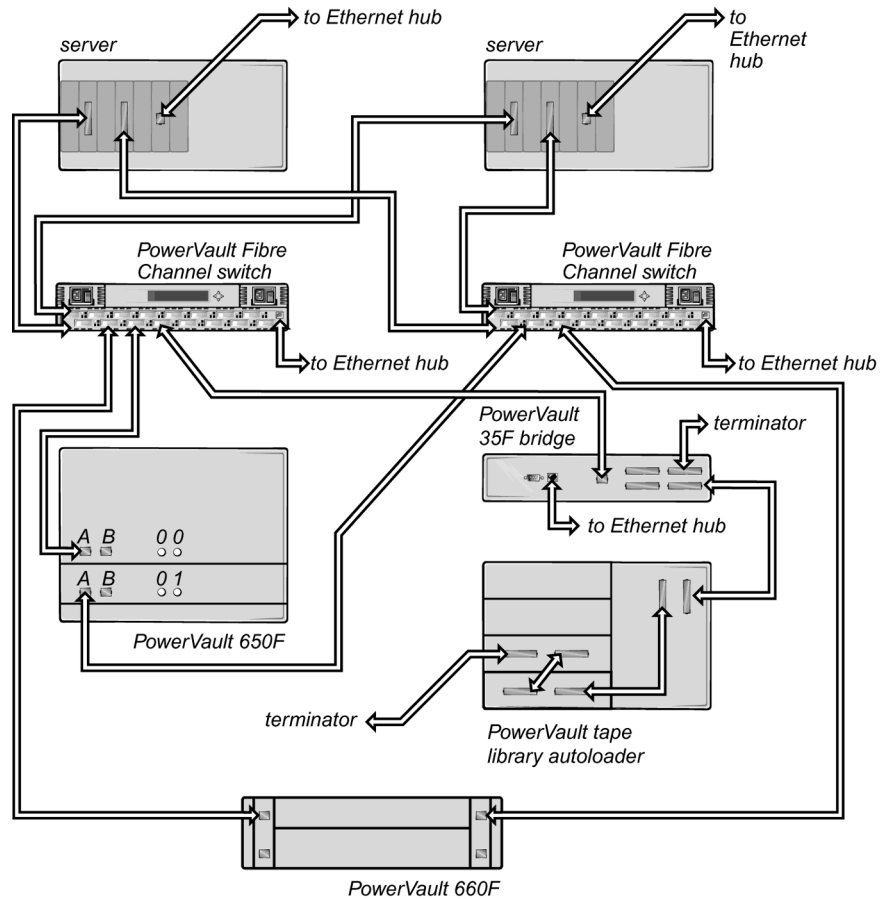

Figure 2-4. SAN Cabling Configuration Example
For an illustration of how some of the components are cabled in a SAN, see the cabling example in Figure 2-4. For more information about cables that can be used in a SAN, see Appendix A, "Cable Types."
2. Create an interface between the 50F, 51F, or 56F Fibre Channel switches and each of the servers that you want to install in the SAN (see Figure 2-4).